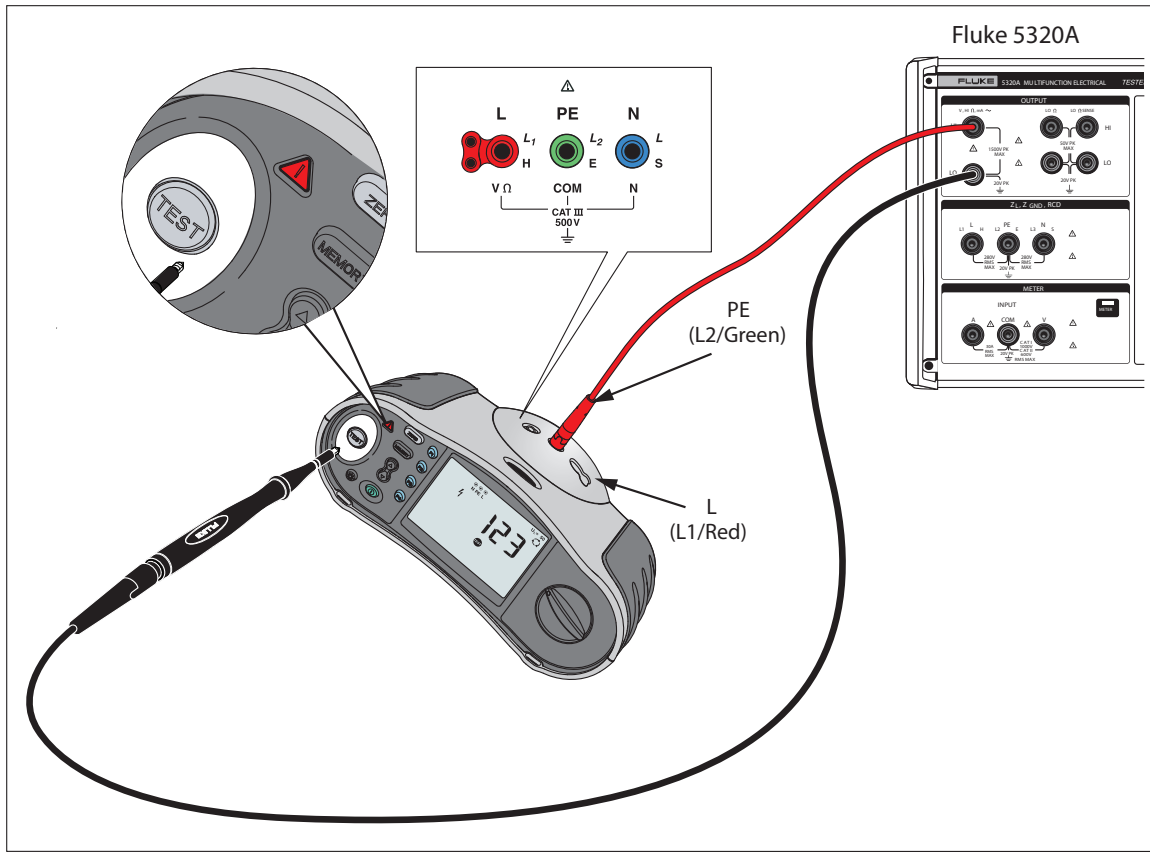

Figure 4. Touch Pad Sense Test
2. Connect the PE and L input jacks of the Tester to the 5320A V, HIΩ, mA~ Output terminals as shown in Figure 4.